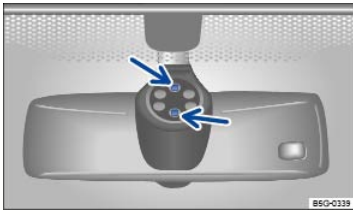

Fig. 86 Inside the front windshield above the inside mirror: Sensitive rain sensor surface (arrows).
The rain sensor may misread what is happening in the *detection zone of its sensitive rain-sensor surface* ⇒ Fig. 86 (arrows) and not work for a number of reasons which may include:
- **Dirt:** Caked-on dust, wax, any other buildup on the windshield (lotus effect), or car-wash detergent residue can lower the rain sensor's sensitivity and cause it to react too slowly or not at all. Clean the rain sensor's sensitive surface ⇒ Fig. 86 (arrows) regularly and check the wiper blades for wear or damage.